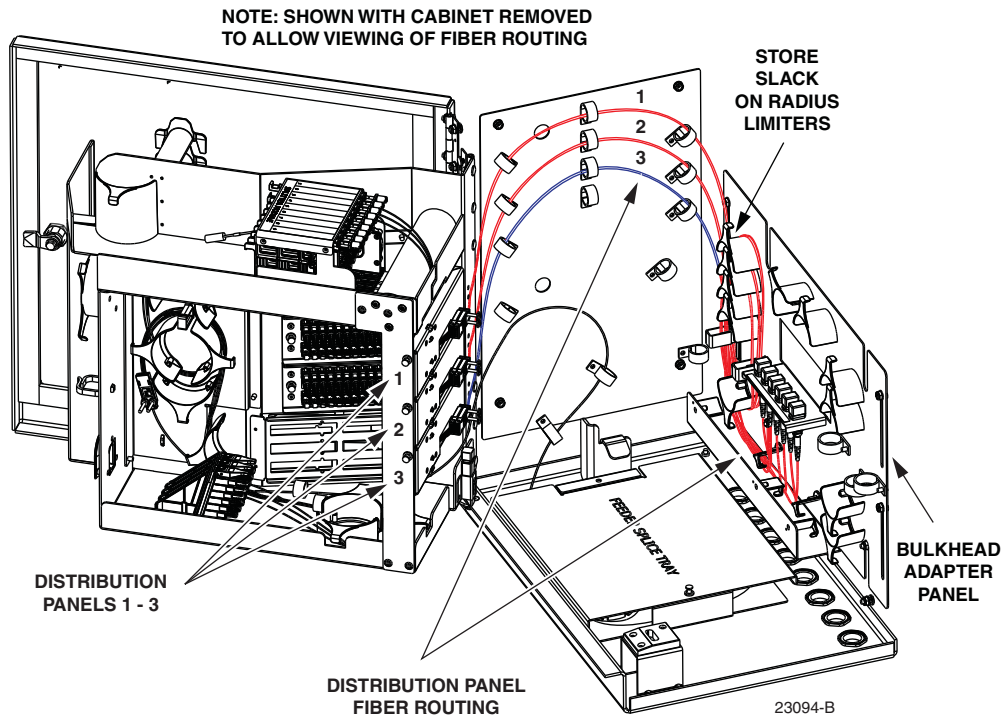

Figure 65. Distribution Panel Fiber Routing
5. Route the distribution panel subunit fibers to the appropriate adapter on the bulkhead adapter panel as shown in Figure 65.